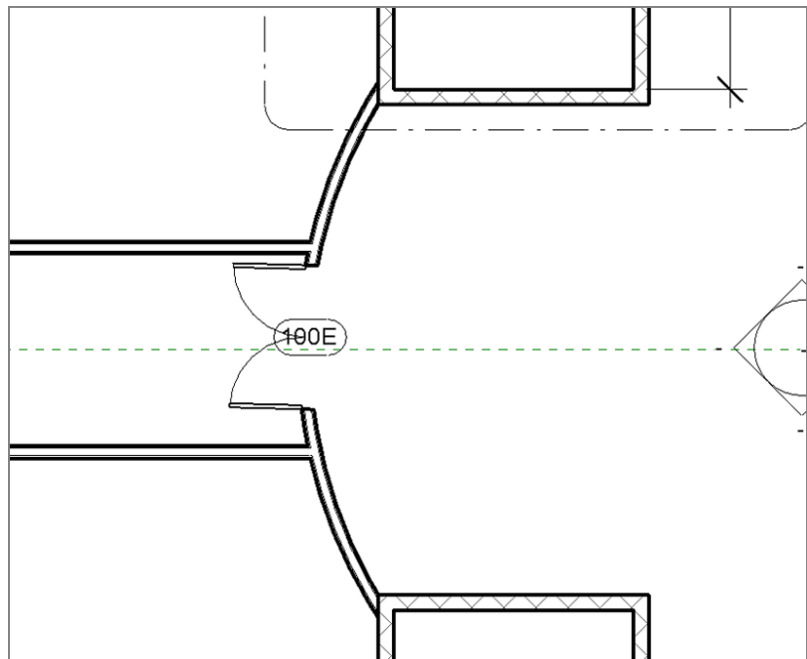

FIGURE 4.32: Adding a double door to the east wing corridor
1. Zoom in to the end of the corridor in the east wing of the building, as shown in Figure 4.32.
3. Place a Double Flush: 72" × 84" (1829mm × 2133mm) door in the radial corridor wall, as shown in Figure 4.32. As when you placed the window along the reference plane in the preceding procedure, don't